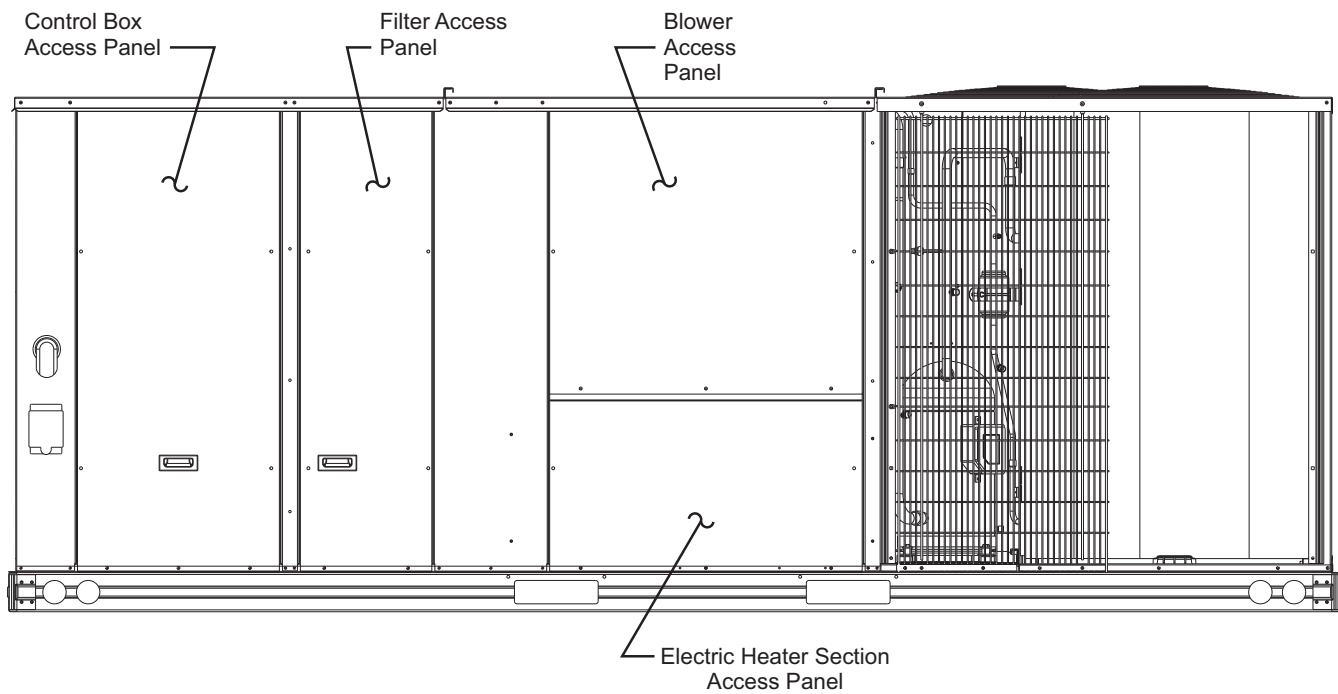

Fig. 48 — Typical Unit — Access Panel Locations
2. Remove electric heater section access panel, control box access panel, filter access panel, and blower access panel from base rooftop unit. (See Fig. 48.)